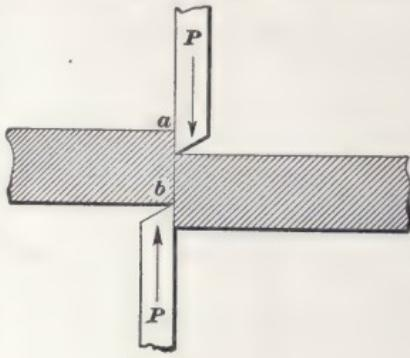

FIG. 6.
**48.** The **shearing strength** of any material is the resistance offered by its fibers to being cut in two. Thus, the pressure of the cutting edges of an ordinary shearing machine, Fig. 6, causes a shearing stress in the plane  $a b$ . The unit shearing force may be found by dividing the force  $P$  by the area of the plane  $a b$ .